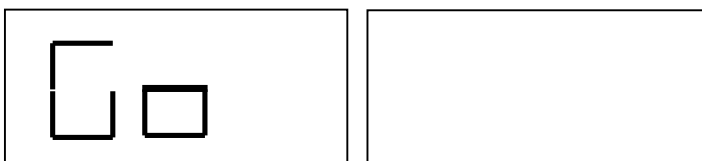

Fig. F5.5 "Run the launch" message
4. Press [P4] . The message seen in figure F5.5 will be displayed;